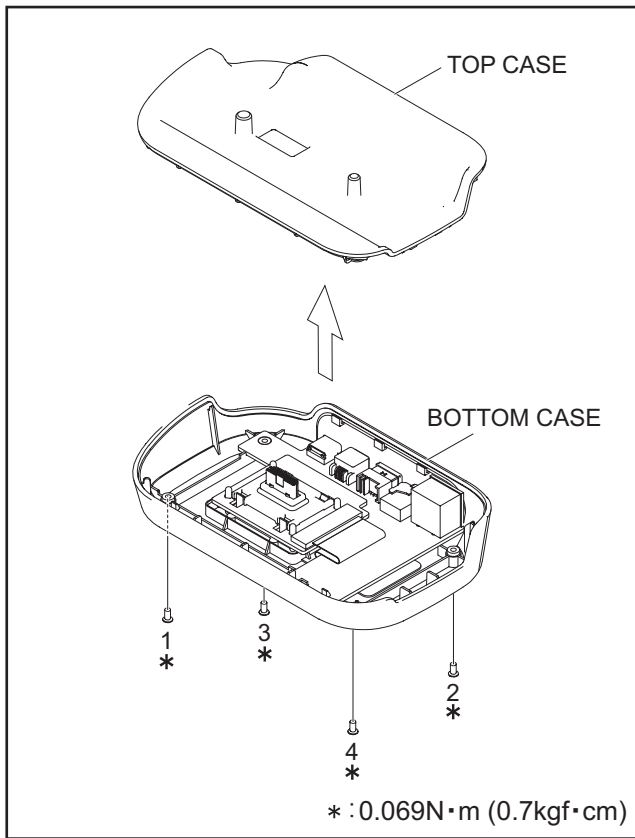

Fig.2-3-1
1. Removing the TOP CASE (Refer to Fig.2-3-1)